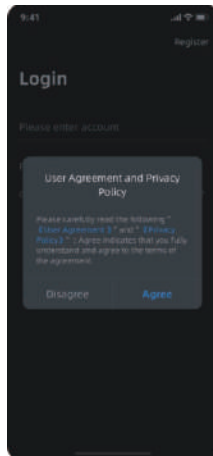

Figure 1
1)Figure 1: Unregistered users click on "**Register**" on the login page, read and click on the "**Agree**" agreement, proceed to the next step.